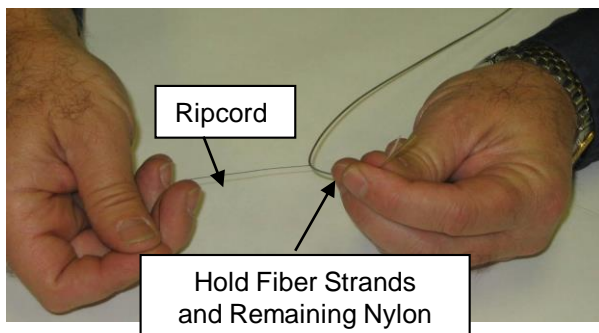

Figure 10
6.4.6 Key Step. With one hand, hold on to all fiber strands and any remaining nylon jacket. **Refer to Fig. 10.**